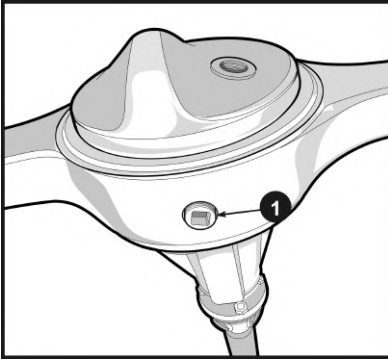

Fig. 1
1.2 Place an oil drain pan under the axle housing. Remove the drain plug (1) and allow all the gear oil to drain completely into the pan. (**Fig. 1**)